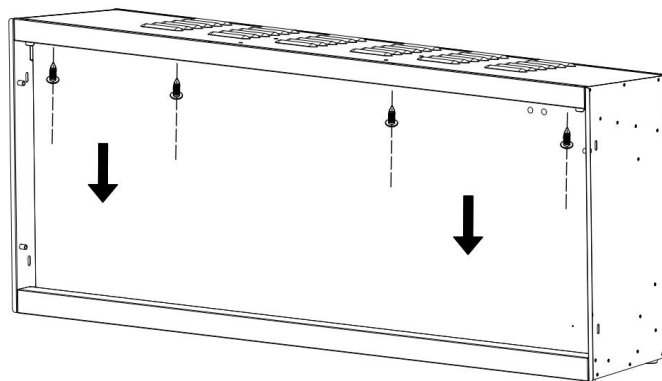

Fig. 2-2
B. With one hand on the front glass to prevent it from falling, remove the screws from the top of the glass. Set the screws aside. (Fig. 2-2)